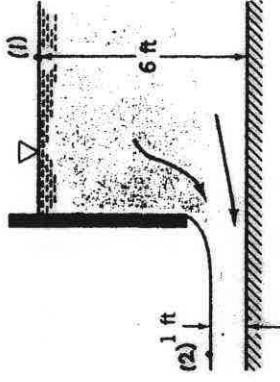

FIGURE P3.79
3.79 Water flows under the sluice gate shown in Fig. P3.79. Determine the flowrate if the gate is 8 ft wide.